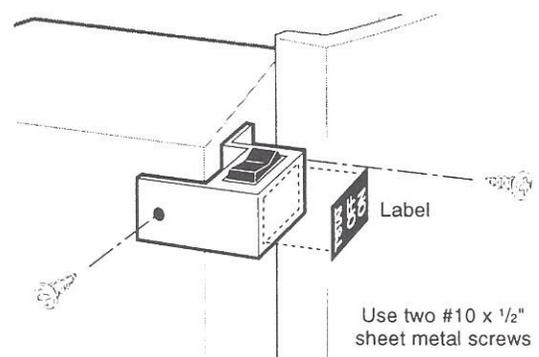

Figure 12. Attach the switch to the Rear Shroud.
3. **Attach the switch housing to the rear shroud** with two #10 x 1/2" sheet-metal screws, from the parts bag. See Fig. 12.
4. **Attach the self-adhesive "T'Stat/Off/On" label** to the housing as shown in Fig. 12.